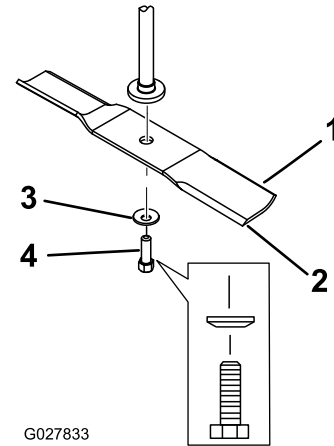

Figure 50
2. Remove the blade bolt, curved washer, and blade from the spindle shaft (Figure 50).
1. Install the blade onto the spindle shaft (Figure 50).
2. Install the curved washer (cupped side toward the blade) and the blade bolt (Figure 50).